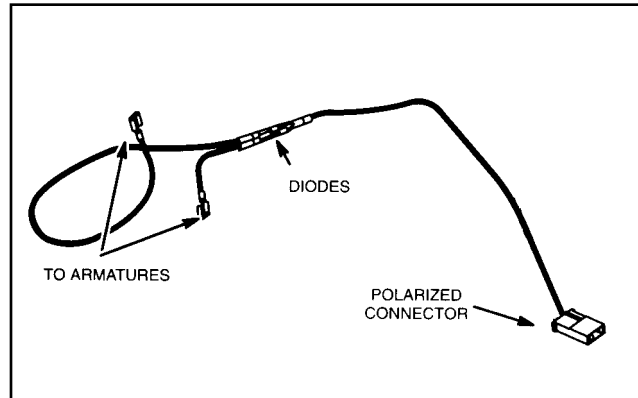

**Fig. 8-Torquing Flywheel Nut**
5. Assemble flywheel to retainer, Fig. 8.